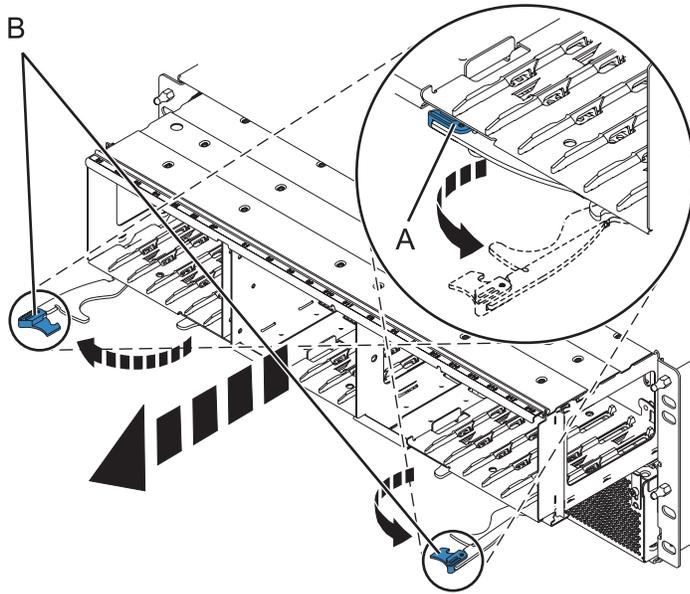

Figure 63. Removing the backplane from the enclosure
6. Remove the backplane as shown in Figure 63 on page 80.
- a. Squeeze the blue latches (A) to unlock the handles.
- b. Pull the handles (B) outward in the direction shown to release the backplane.